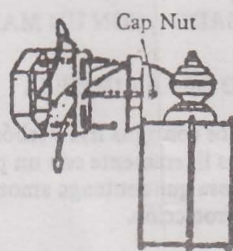

FIG.6
- b) Place fixture over nipple and secure with cap nut provided. (FIG.6) Fixture canopy should be flush with surface.